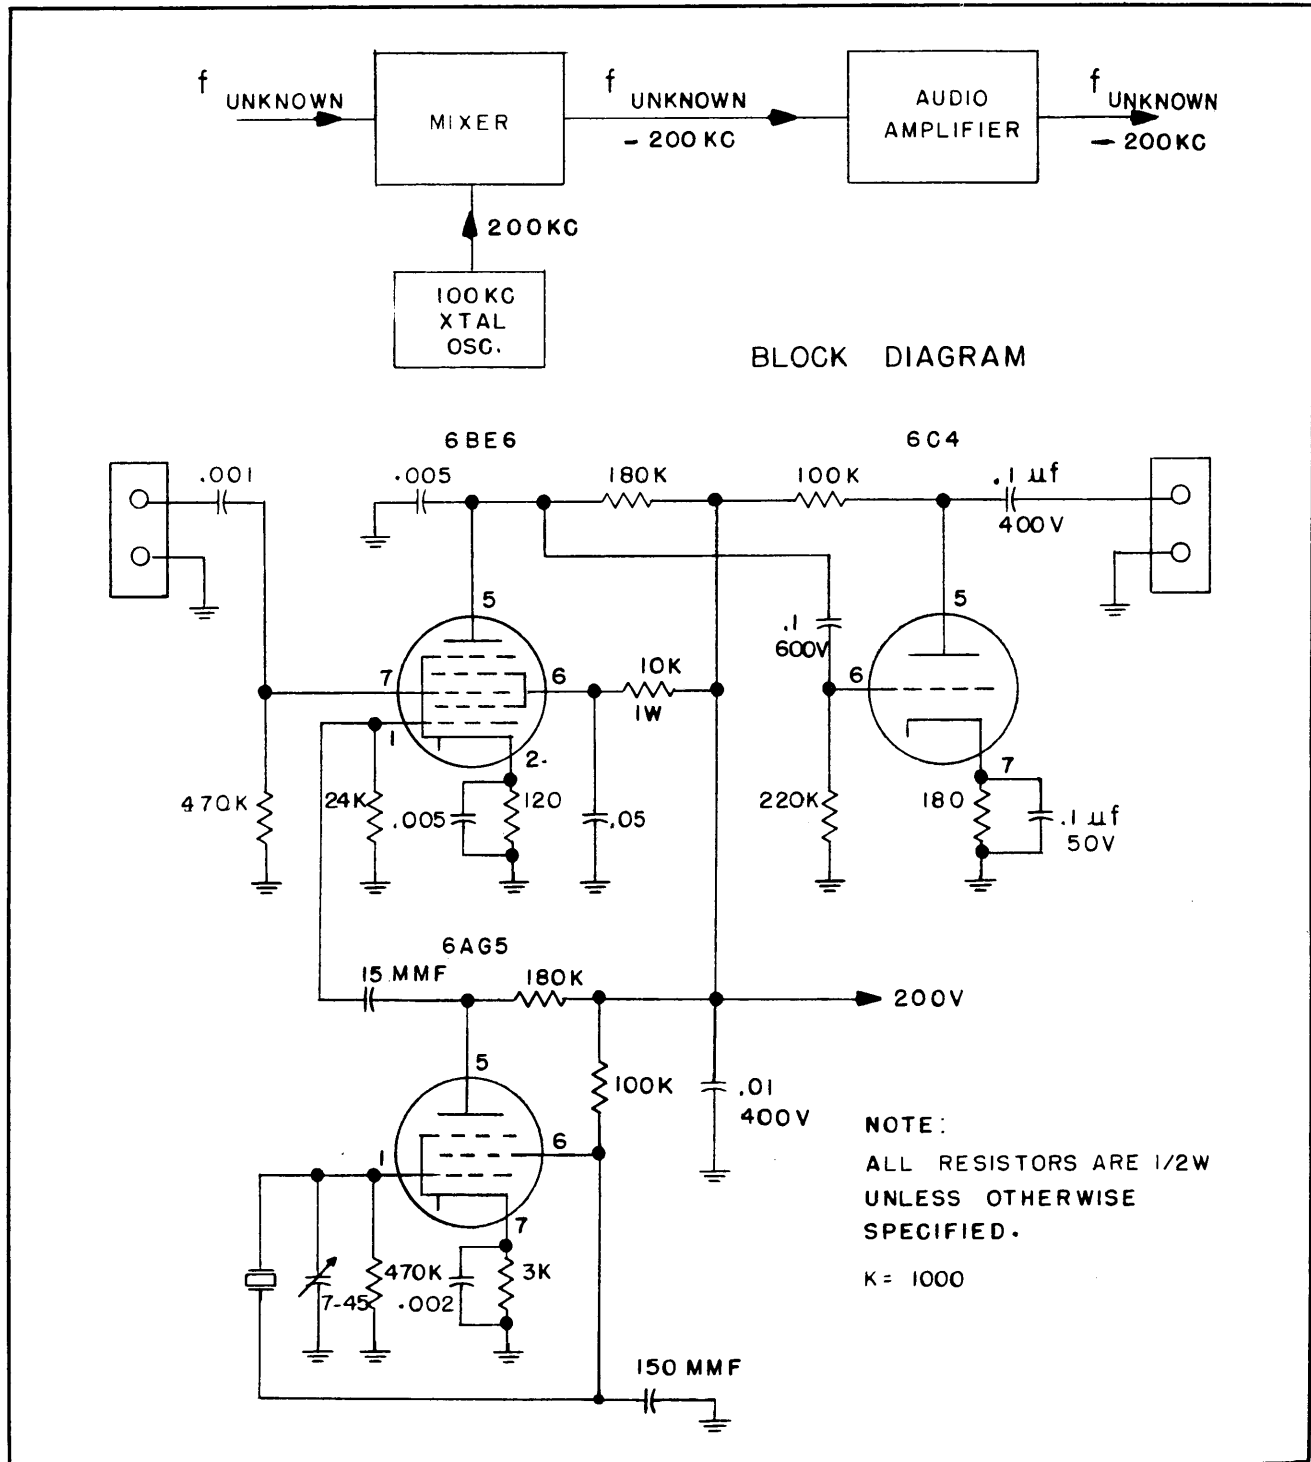
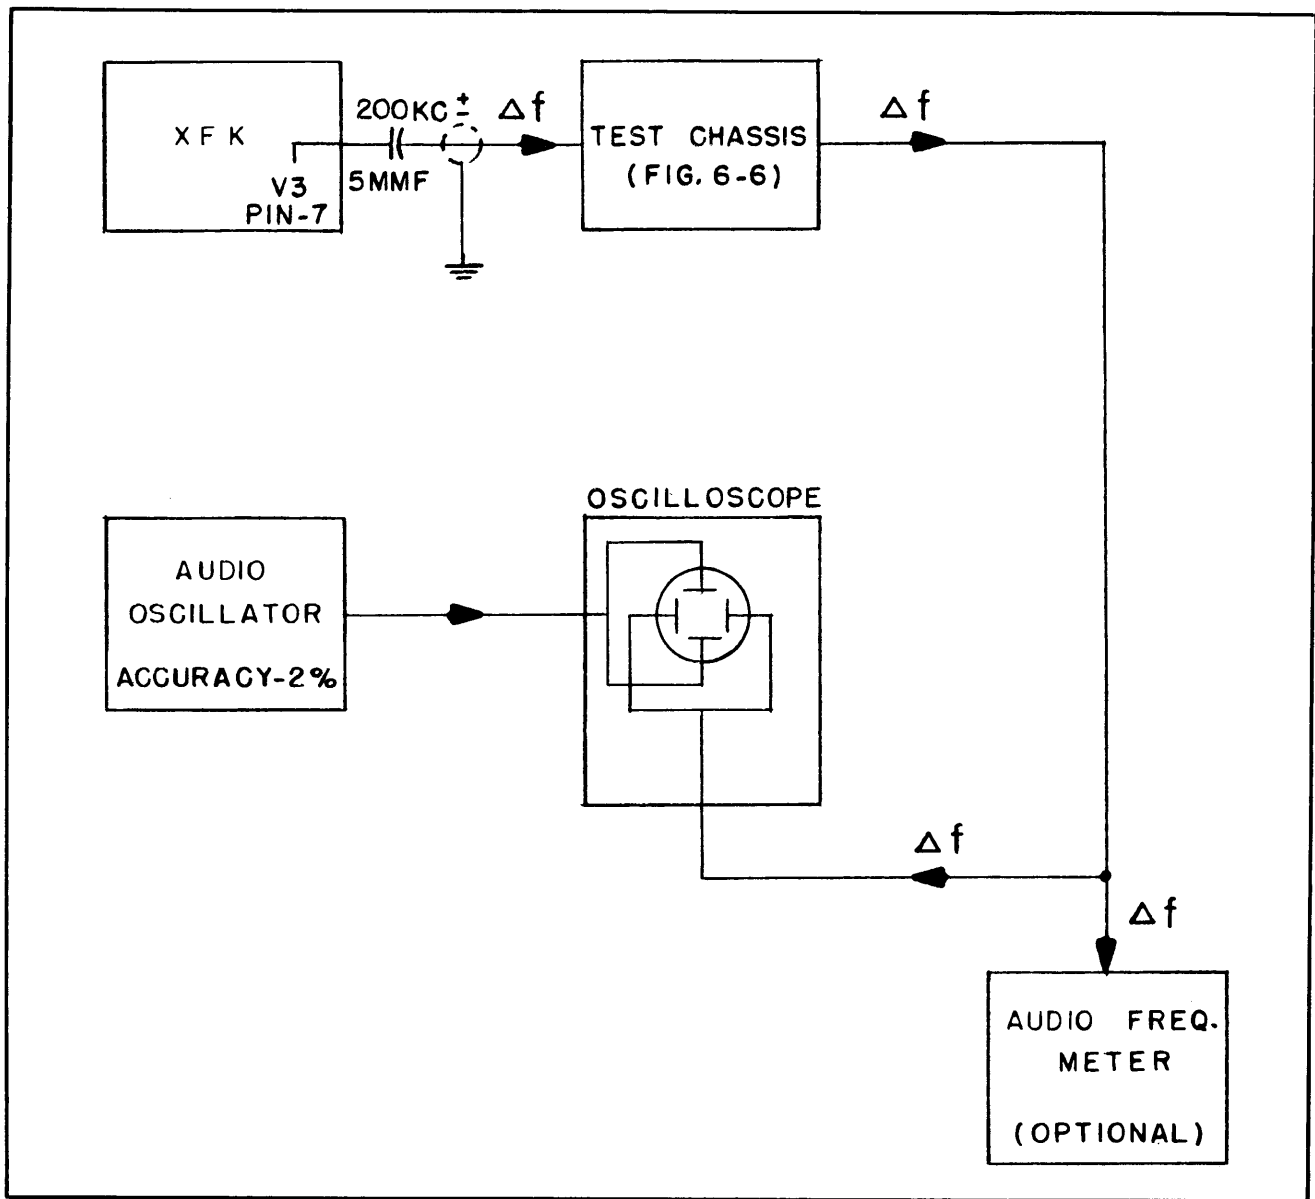

Figure 6-6 Test Chassis
Figure 6-7 Block Diagram
The proper alignment of this section of the Model XFK Exciter requires accurate frequency measurements. It is recommended that the equipment and method outlined in Fig 6-6 and Fig 6-7 be adopted for best accuracy and ease of measurement.
(1) Set up equipment as shown in Fig 6-7
(2) Observe that the pointer on the frequency knob reads minus 600 cycles when the capacitor C7 is approximately 7 deg. from being fully